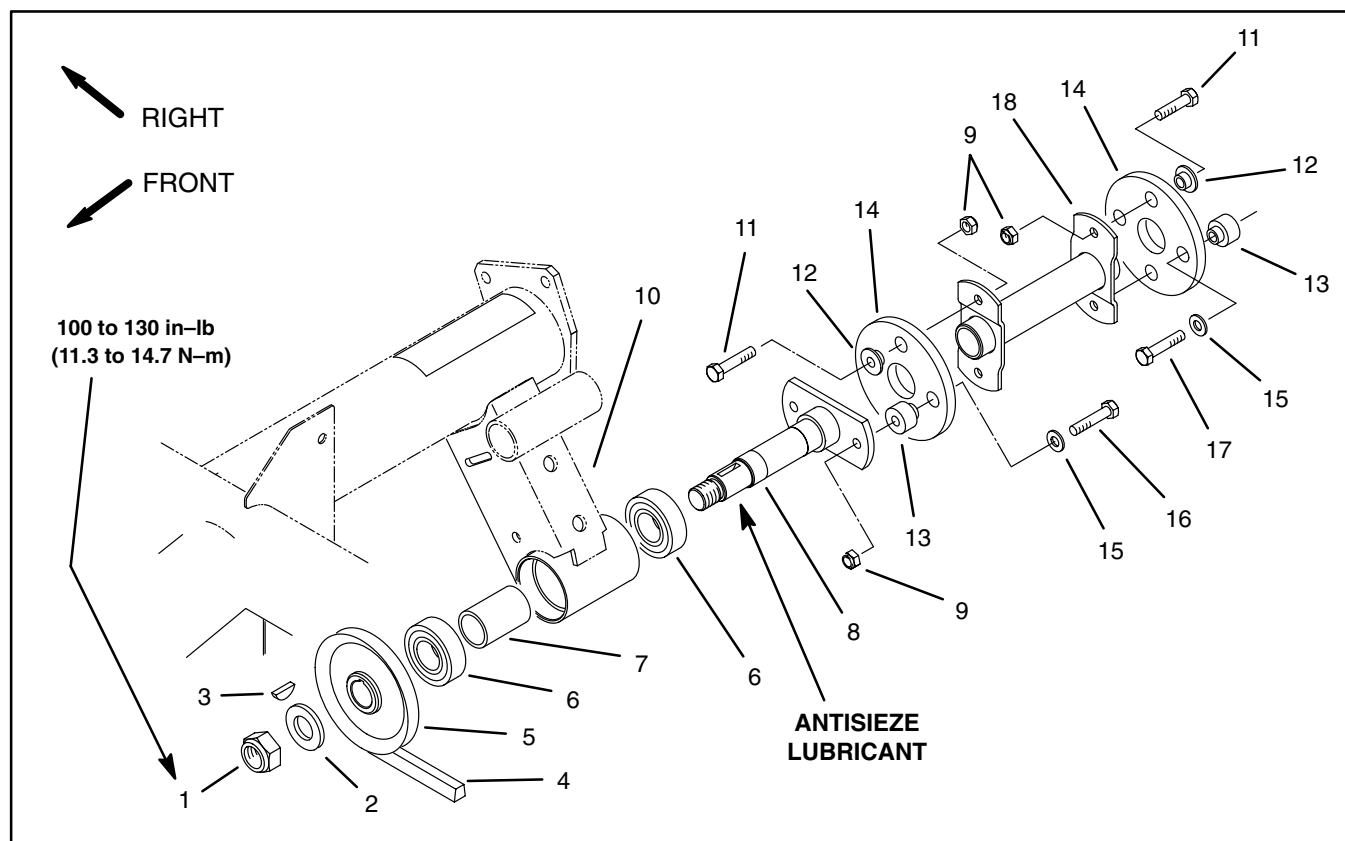

Figure 6
Removal (Fig. 6)
2. Disassemble driveshaft using Figure 6 as a guide.
Installation (Fig. 6)